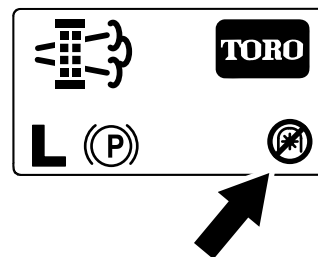

Figure 52
**Note:** The Home screen displays the PTO disabled Icon (Figure 52).
**Note:** The Home screen displays the PTO disabled icon; refer to Figure 52 in Parked Regeneration Messages \(page 48\).